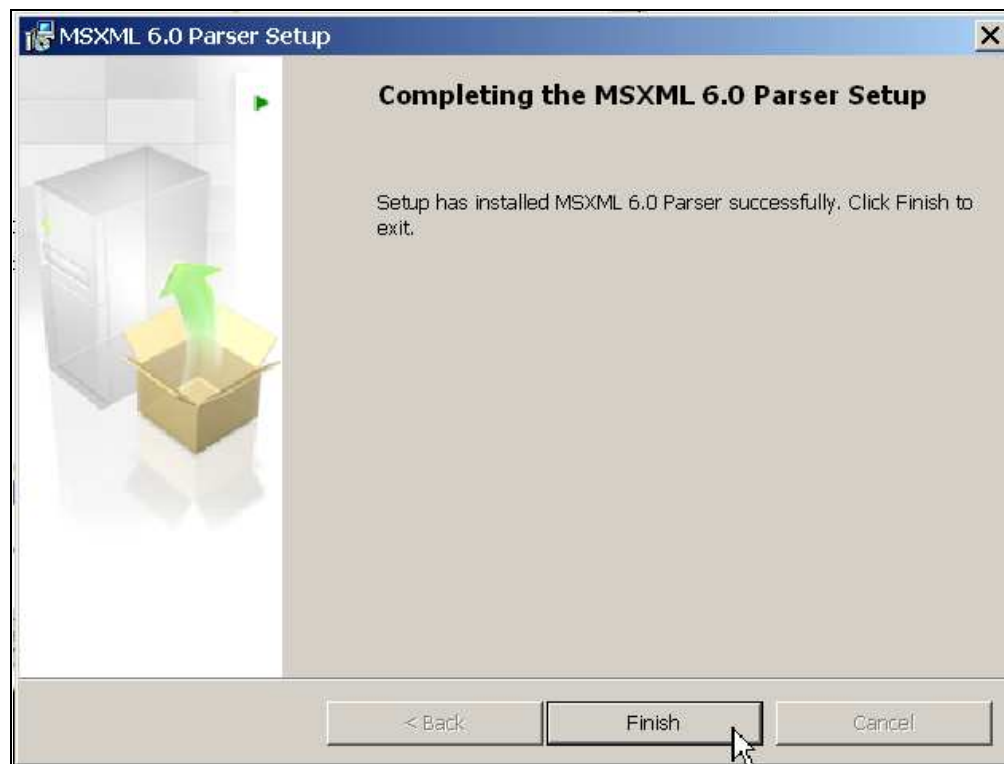

FIGURE 2-6: MSXML Parser Install Window.
- After the setup is complete, the MSXML Parser used by the Chip Manager software is installed, as shown in Figure 2-6. Once the setup completes successfully, press **Finish** to exit the install.